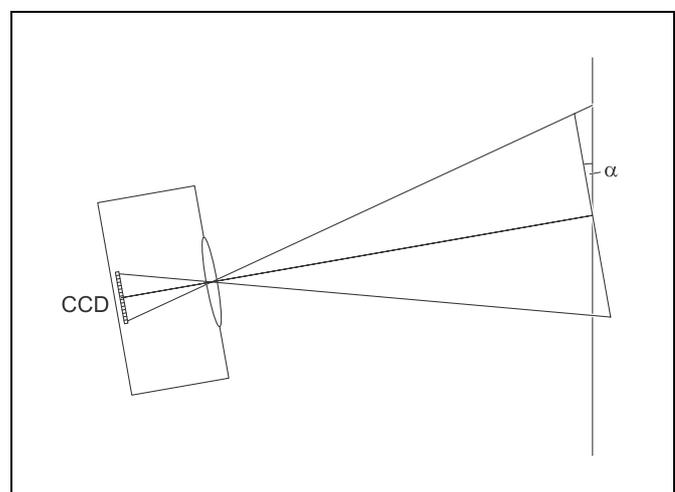

Fig. 2 Diagram defining the angle α between VideoCom and the path of fall.
- If an angle $\alpha > 1^\circ$ is indicated, the alignment of VideoCom is not yet sufficiently perpendicular (see Fig. 2):